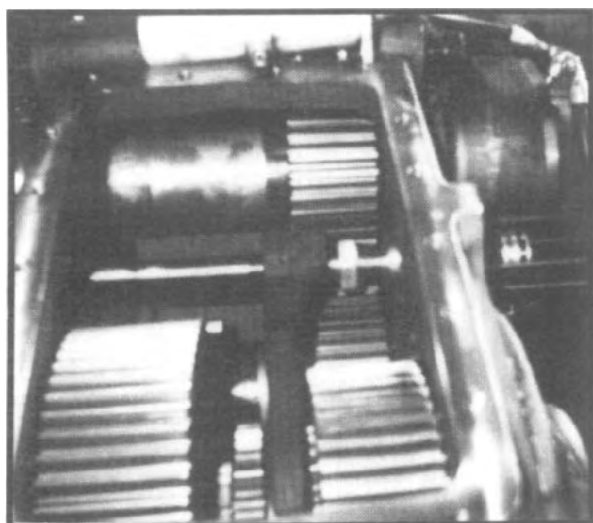

Fig. 197A (new style)
19. Using a hex wrench to screw shaft in or out, adjust all three positions, high-neutral-underdrive (high-underdrive on cases without neutral) to give a centered neutral and approximately equal engagement at both ends of the shift. Use shop air pressure to operate the shifts. Tighten the jam nut to correct torque and install rear cap and gasket with four capscrews. (See fig. 197A.)